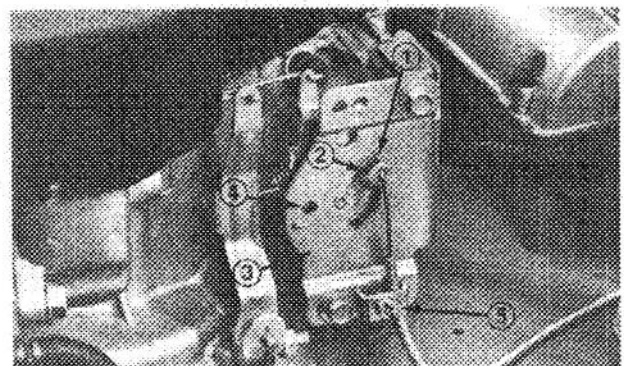

Figure 2
2. Hook wire Z-bend into hole of speed control lever (Fig. 2).
3. Loosen cable clamp screw allowing cable installation, but do not tighten (Fig. 2).